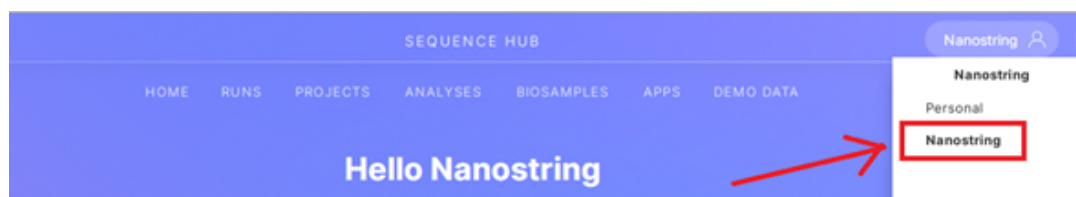

Figure 13: Select your workgroup. In this example, the workgroup is Nanostring.
1. Log into BaseSpace and select the correct workgroup (Figure 13).